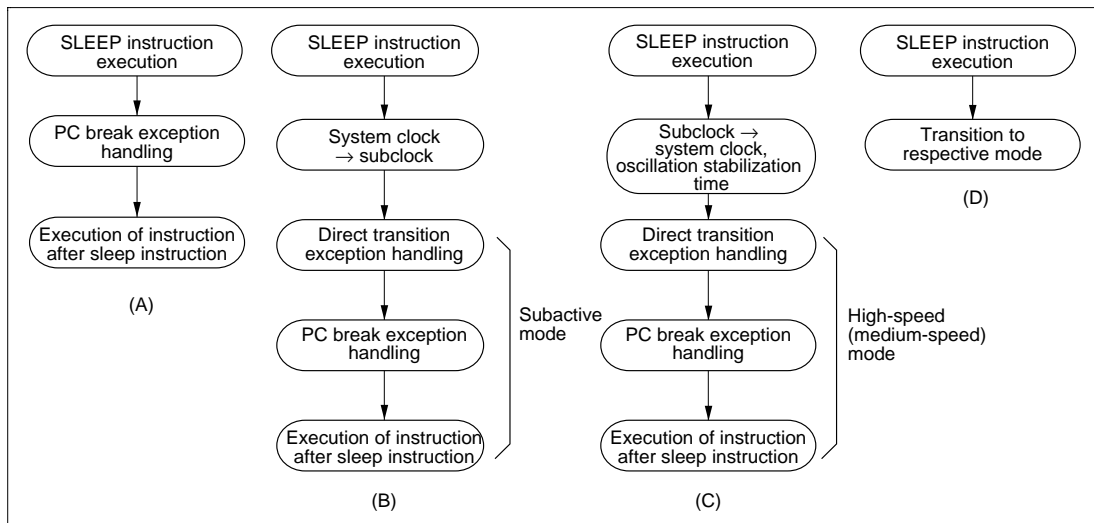

Figure 6-2 Operation in Power-Down Mode Transitions
- (1) When the SLEEP instruction causes a transition from high-speed (medium-speed) mode to sleep mode, or from subactive mode to subsleep mode:
After execution of the SLEEP instruction, a transition is not made to sleep mode or subsleep mode, and PC break interrupt handling is executed. After execution of PC break interrupt handling, the instruction at the address after the SLEEP instruction is executed (figure 6-2 (A)).
- (2) When the SLEEP instruction causes a transition from high-speed (medium-speed) mode to subactive mode:
After execution of the SLEEP instruction, a transition is made to subactive mode via direct transition exception handling. After the transition, PC break interrupt handling is executed, then the instruction at the address after the SLEEP instruction is executed (figure 6-2 (B)).
- (3) When the SLEEP instruction causes a transition from subactive mode to high-speed (medium-speed) mode:
After execution of the SLEEP instruction, and following the clock oscillation stabilization time, a transition is made to high-speed (medium-speed) mode via direct transition exception handling. After the transition, PC break interrupt handling is executed, then the instruction at the address after the SLEEP instruction is executed (figure 6-2 (C)).
(4) When the SLEEP instruction causes a transition to software standby mode or watch mode:
After execution of the SLEEP instruction, a transition is made to the respective mode, and PC break interrupt handling is not executed. However, the CMFA or CMFB flag is set (figure 6-2 (D)).